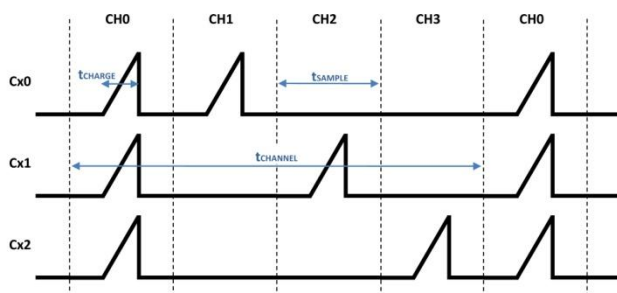

Figure 8.2 Signals on CX's / CRX's during Normal Power Mode.
With the **IQS213A** in Normal Power (NP) mode, the sense channels are charged at a fixed sampling frequency (f_{SAMPLE}) per channel. This is done to ensure regular samples for processing of results. It is calculated as each sample having a time ($t_{\text{SAMPLE}} = \text{charge period} (t_{\text{CHARGE}}) + \text{computation time}$) of approximately 2.6ms, thus the time between consecutive samples on a channel (t_{CHANNEL}) will optimally be $t_{\text{SAMPLE}} = 4 * t_{\text{SAMPLE}} \approx 10.4\text{ms}$ (or 96Hz). The charge sequence and timings are illustrated in **Figure 8.2**.